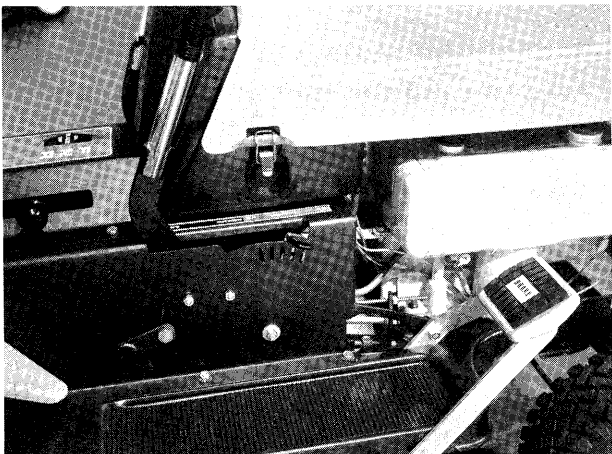
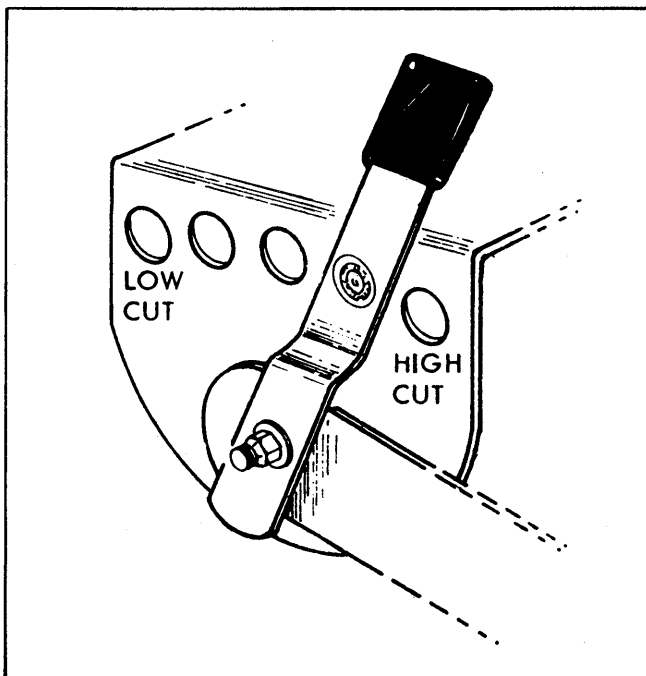

FIGURE 3
FIGURE 6 MOWING HEIGHT ADJUSTMENT
a. **Normal Mowing.** Set the mowing height with the wheel height adjusters (See figure 6). Set the lift lever adjustment in the 1-1/2-inch position as shown in (figure 3). Disengage the lift lever and let it move all the way forward. This will allow the deck to float and follow the contour of the ground.
2. Set the stop lever (figure 3) at a slow speed.
Depress the clutch-brake pedal and pull the parking brake into the park position. (See figure 3).